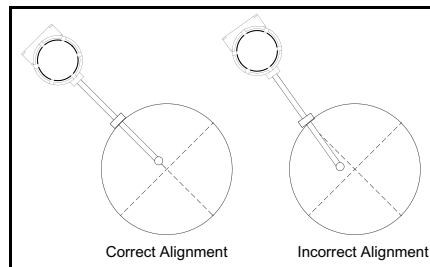

Figure 13: Connection Alignment
6. Weld the flow meter pipe connection on the pipe. Make sure this connection is within $\pm 5^\circ$ perpendicular to the pipe centerline (see *Figure 13* below).
2. Weld a two inch mounting adapter on the pipe. Make sure the mounting adapter is within $\pm 5^\circ$ perpendicular to the pipe centerline (see *Figure 13 on page 18*). The pipe opening must be at least 1.875 inches in diameter.